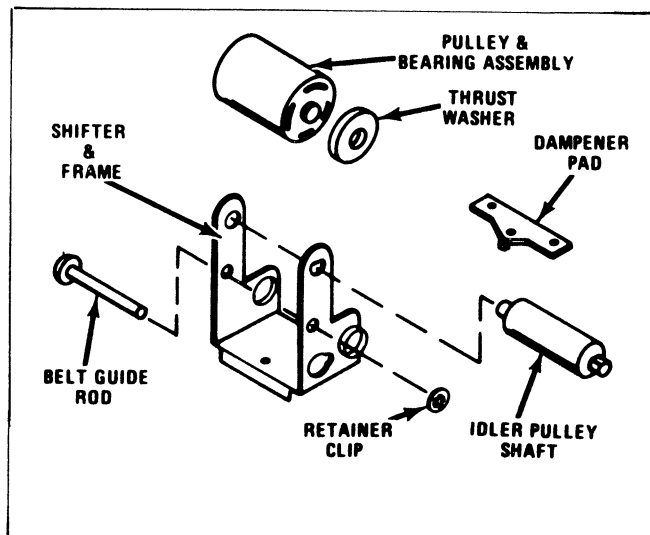

Figure B7
1. Remove the belt guide rod. Using a punch, drive the rod out of the locking retainer, Figure B7.